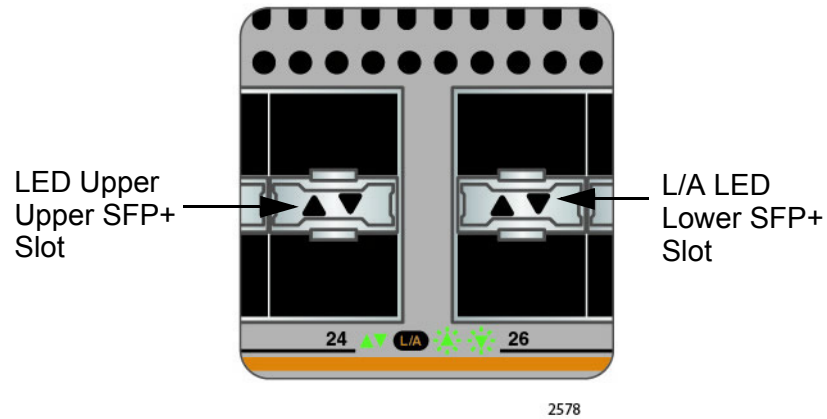

Figure 3. SFP+ Slot LEDs
- ❑ SFP+ Slot LEDs - Each SFP+ slot has a corresponding LED which displays the link and activity status of the port. See Figure 3 on page 24 for the location of these LEDs and Table 2 on page 24 for their functional description.
Each SFP+ slot has one Link/Activity LED. The LED is triangular in shape. The triangle LED pointing up shows the status of the upper SFP+ slot while the triangle LED pointing down shows the status of the lower SFP+ slot. These SFP+ slot LEDs are shown in Figure 3.